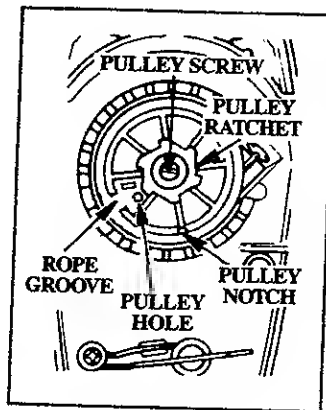

Figure 27
10. Remove screw from the starter pulley very carefully. Rotate the pulley clockwise ➡ until no spring tension is felt and carefully lift the pulley out of the fan housing. Figure 27. Remove the old rope.
17. Carefully replace pulley in the housing. Be sure the pulley is all the way down. Replace washer and screw and tighten. Figure 27.